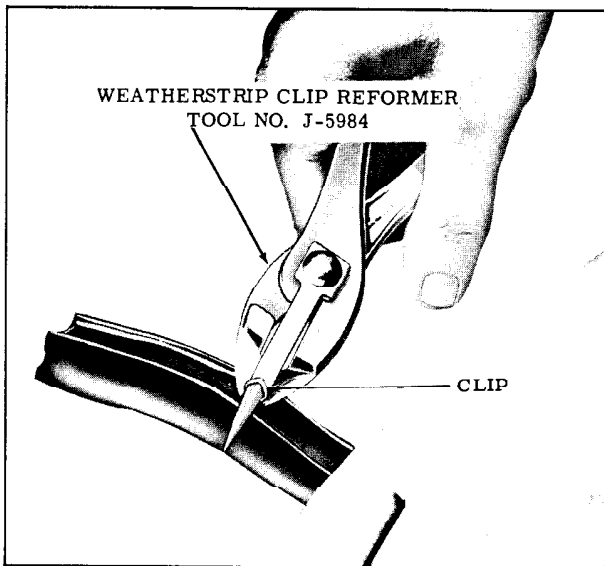

Fig. 15-21 Reforming Weatherstrip Clips with Tool J-5984
2. Check weatherstrip clips for proper contour and reform if necessary using Tool J-5984. (Fig. 15-21)